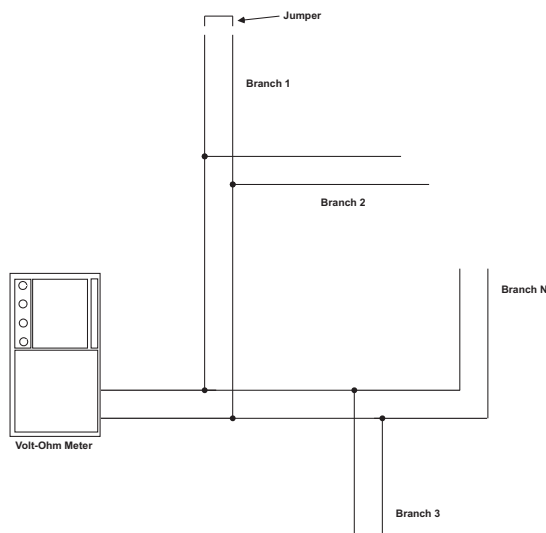

Figure 2-26. Measuring CLASS-B SLC Wiring Resistance
1. Short the ends of each branch line one at a time. Measure the resistance from the terminating points at the control unit to the end of the branch line. Refer to Figure 2-26.